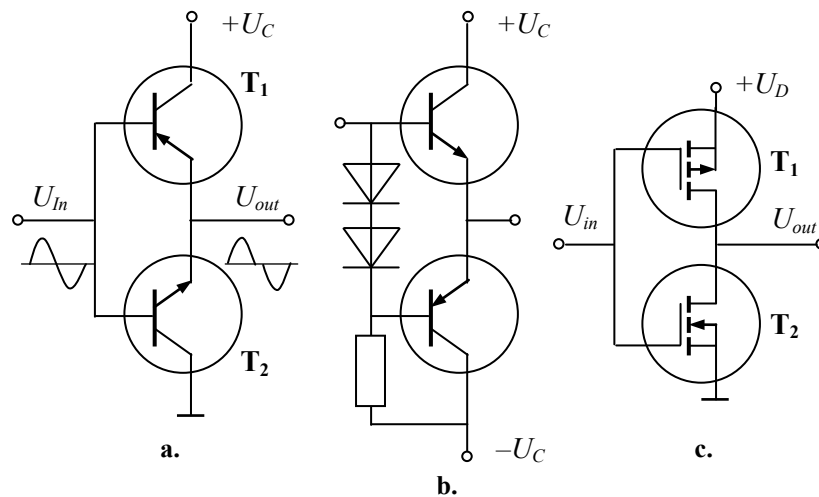

Fig. 2.53
**Push-pull amplifiers.** When a transistor is biased for the class B mode of operation, it clips off half a cycle of the input signal. To reduce distortion, two transistors are used in *push-pull* arrangement that is the pair of identical transistors connected so that the signal can be introduced across. Fig. 2.53,a shows a way to connect a class B transistors by linking an *npn* emitter follower to *pnp* emitter follower. The load is connected to the emitters of the transistors, which operate as repeaters.
To avoid distortion, diodes are used, which provide the class AB operation in the balanced supplied circuit, as shown in Fig. 2.53,b.
Connecting the  $p$ -channel and  $n$ -channel MOSFETs forms the basic bilateral switch shown in Fig. 2.53,c. This combination reduces the forward resistance, improves linearity, and also produces a resistance, which varies much less with the input voltage. The circuit built on the  $p$ -channel ( $T_1$ ) and  $n$ -channel ( $T_2$ ) MOSFETs is analogous to the class B push-pull bipolar amplifier. When one device is on, the other is off, and vice versa. Push-pull amplifiers are popular in the output stages of the multistage amplifiers.